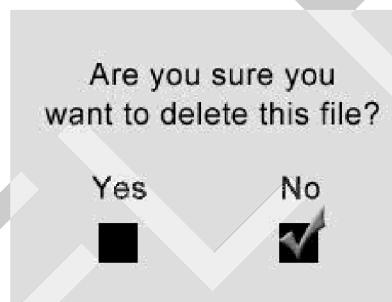
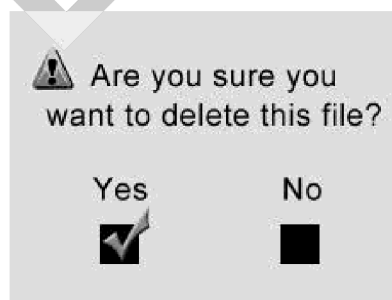

Fig. 22
Fig. 23
- ✓ Either in the **Photo** mode or in the **Video** mode, press **Trash Can** button to delete captured photos and videos, and a “**Are you sure you want to delete this file?**” message appears on the screen. (*Fig. 22 and Fig. 23*) If you wish to delete the files or not, use **LEFT** and **RIGHT** arrow buttons to select **Yes** or **No**, then press **OK** button to save your selection.